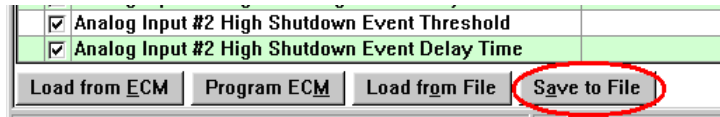

Figure 17.4 – Save to File
7. After any selection changes are completed, click "Save to File" from the bottom of the ECM Replacement screen to save the file. See Figure 17.4. Make sure to note where the file is stored.